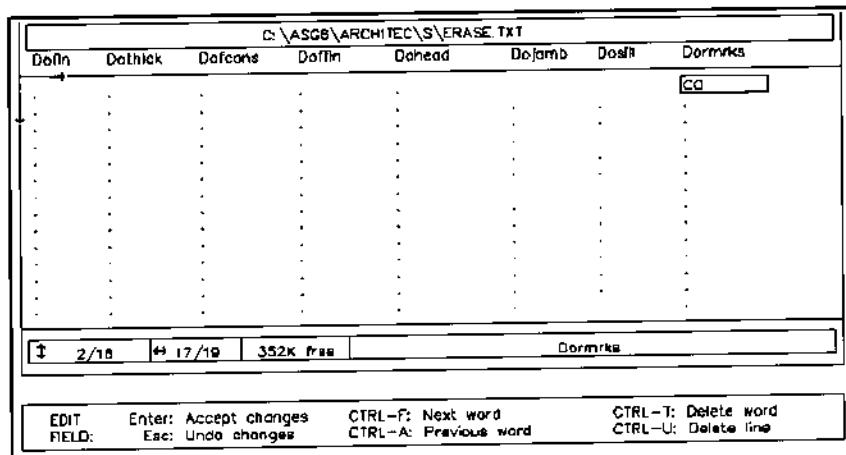

Figure 19.
- Continue pressing the Tab key (to see the rest of the screen) until the Dormarks (Door remarks) column appears as shown in Figure 19. Replace the . (period) with CO for Cased Opening.